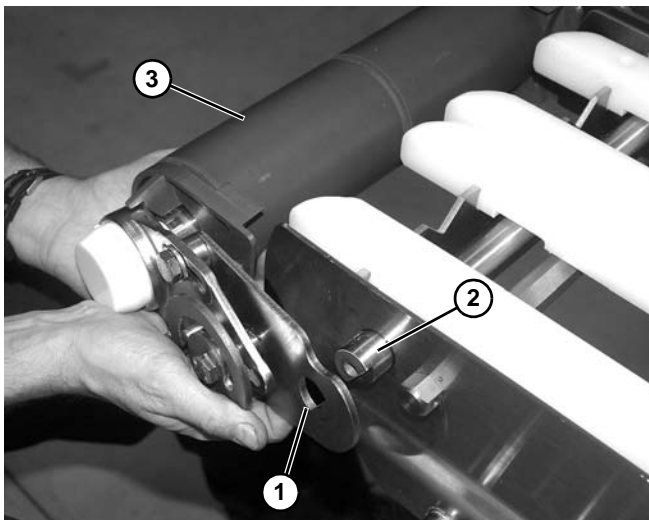

Figure 132
3. Slide each slotted idler spindle plate (Figure 132, item 1) off of notched shaft (Figure 132, item 2) on idler end.
4. Remove the idler spindle assembly (Figure 132, item 3) from both end of notched shaft.